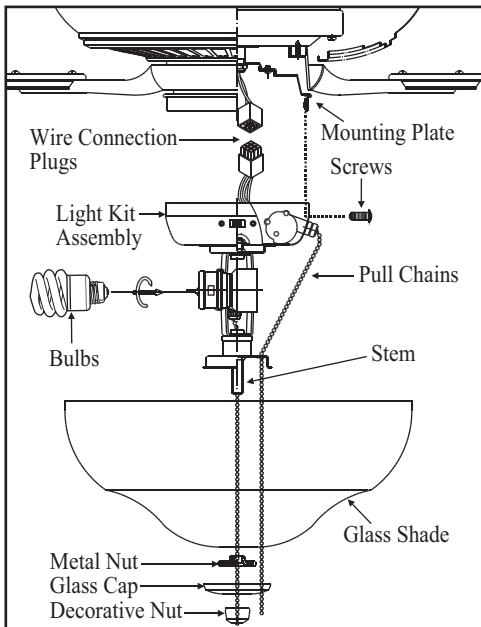

Figure 16
1. While holding the light kit assembly under your fan, snap together the wire connection plugs (Fig. 16).
2. Carefully push all wires back into the switch housing, then install the light kit assembly onto the mounting plate with 4 screws provided. Be sure to tighten all screws. (Fig. 16)
4. Remove the decorative nut, glass cap and metal nut from the light kit. Place the glass shade over the light kit stem, secure with the metal nut (rubber side on the top), glass cap and decorative nut. Do not overtighten. (Fig. 16)
5. Insert the 2 pull chain through the eyelet in the shade and cap. Secure the glass cap and decorative nut provided. (Fig. 16)